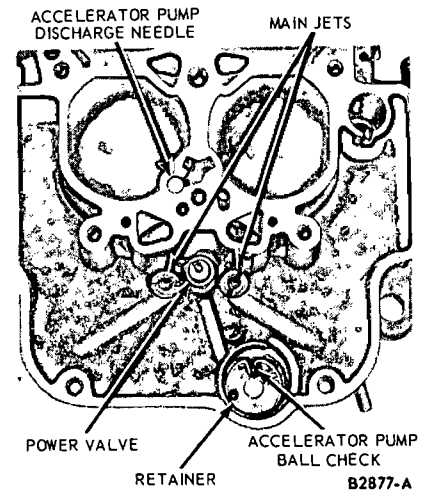

FIG. 47—Main Body Valves and Jets Autolite Model 4300 4-V
6. Place the accelerator pump ball check in the pump inlet hole of the pump chamber. Install the ball check retaining ring. **The retaining ring must be installed with the tangs over the pump inlet hole as shown in Fig. 47.**